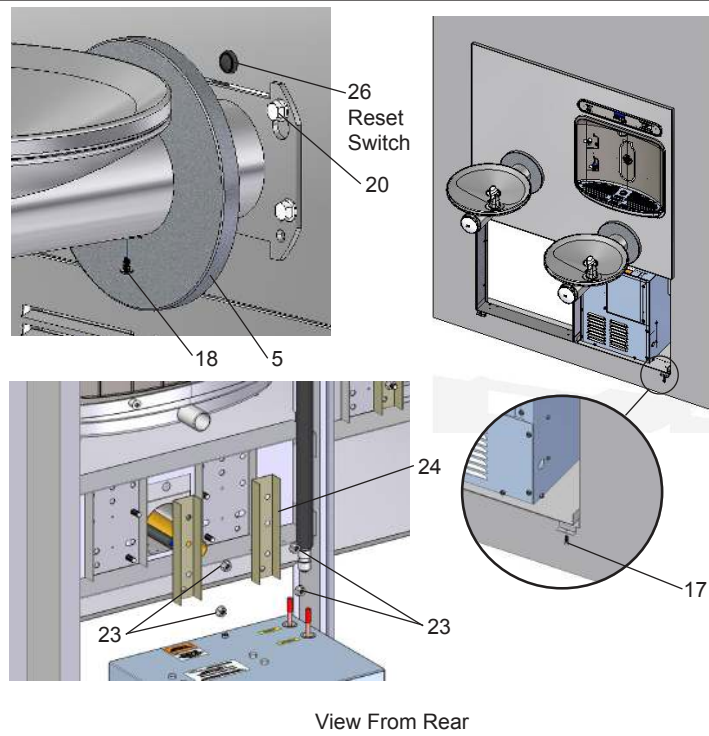

Figure 4 - Fountain Installation
7. **Install** fountains with (8) 5/16-18 HHMS, (8) 5/16-18 nuts & (4) support brackets (provided) (Fig 4). Connect the 1/4" water lines from each fountain to the remaining openings on the tee at the remote chiller (cut lines to fit as needed), (Test fit refrigerated panel to make sure there is a tight joint between it & the main panel before fully tightening mounting screws.)
8. **Install** reset switch for bottle filler (Fig 4). Connect the switch wire to the extension wire on the back of the bottle filler. Wrap up the excess cord.
16. **Install** the bottom panel, tighten screws (Fig 4).